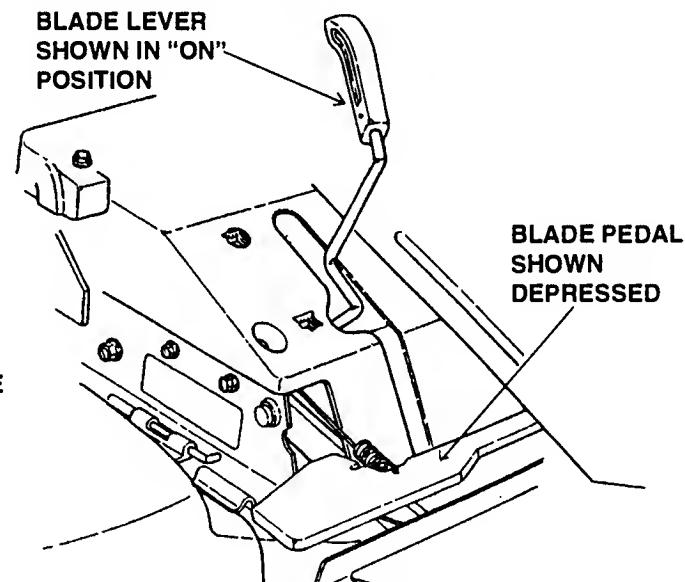

FIGURE 2.10
2. Move blade lever forward to the "ON" position, then depress blade pedal to hold blade lever in the "ON" position. See Figure 2.10.